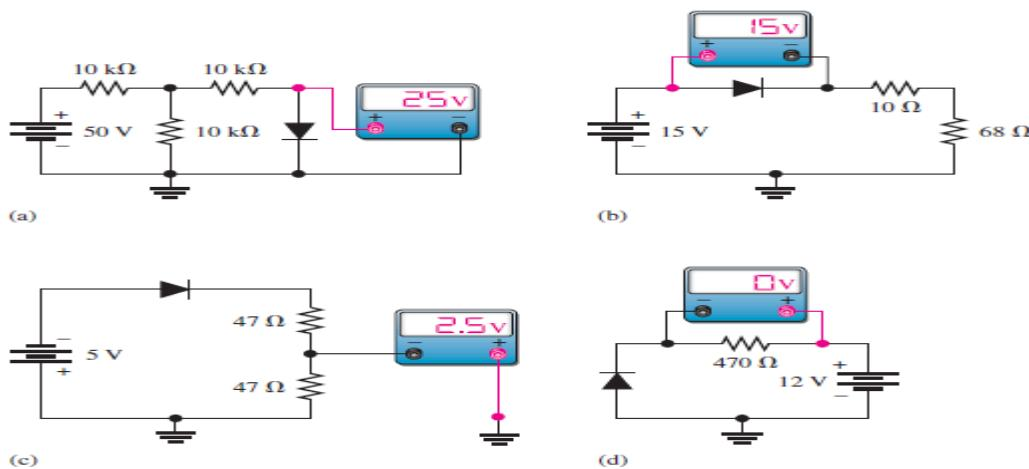

Figure 2–99
47. Determine the voltage with respect to ground at each point in Figure 2–100. Assume the practical model.